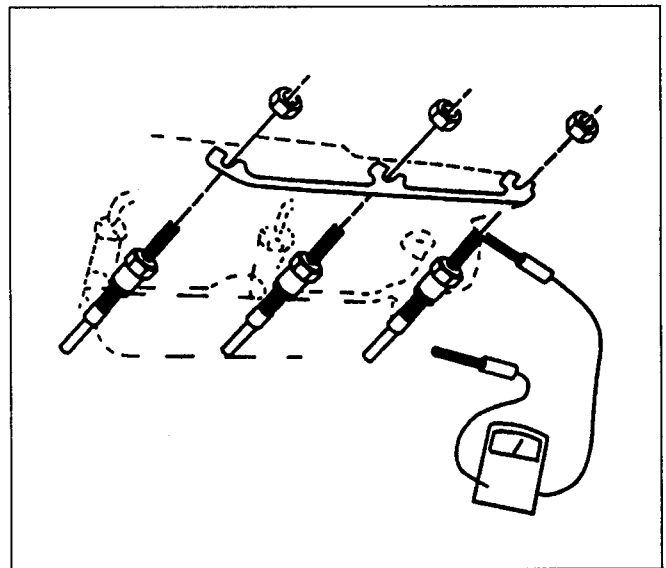

Figure 3 - Continuity Test
2. A continuity check can also be made with an ohmmeter between the glow plug lead and ground, with the buss bars removed (Figure 3). If no continuity exists, the glow plug will not heat and should be replaced.